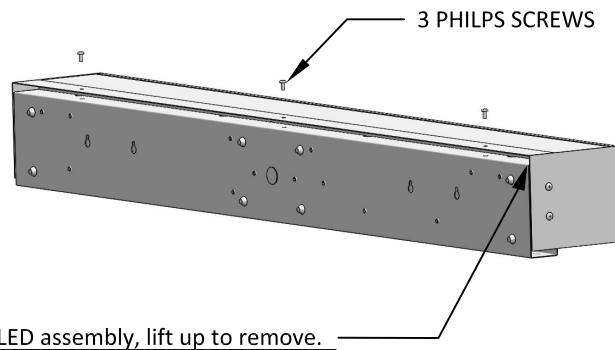

FIGURE 1
2. Remove the three Philips head screws that secure the front LED light assembly to the wall mounting plate. (See Figure 1)
3. Lift up the LED light assembly approx. $\frac{1}{2}$ inch to remove it from the wall mounting plate. (See Figure 1)